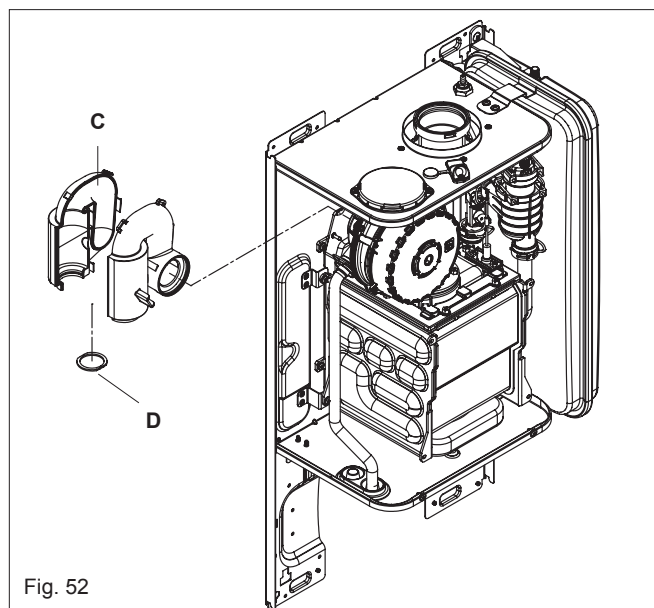

Fig. 52
- Replace if necessary the flange (D) on the silencer (C) loosening the two part (fig. 52)